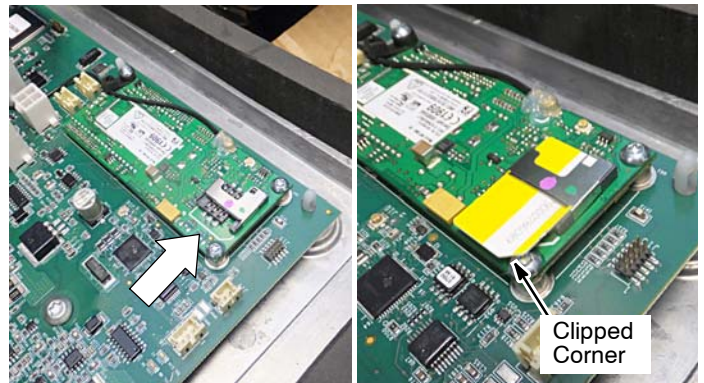

Fig. 10
- Fully insert the existing SIM card into the new control board (Figure 10).